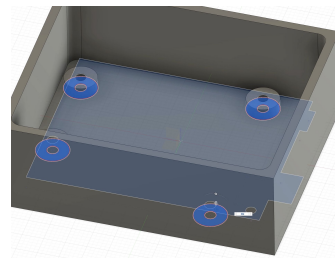

Figure 1.3
- This approach makes the pads adaptive, if the Arduino's position changes, the pads will automatically adjust. A reference is created to the bottom of the Arduino, so you may notice the holes don't align until you select '**Join**' (see Figure 1.3).